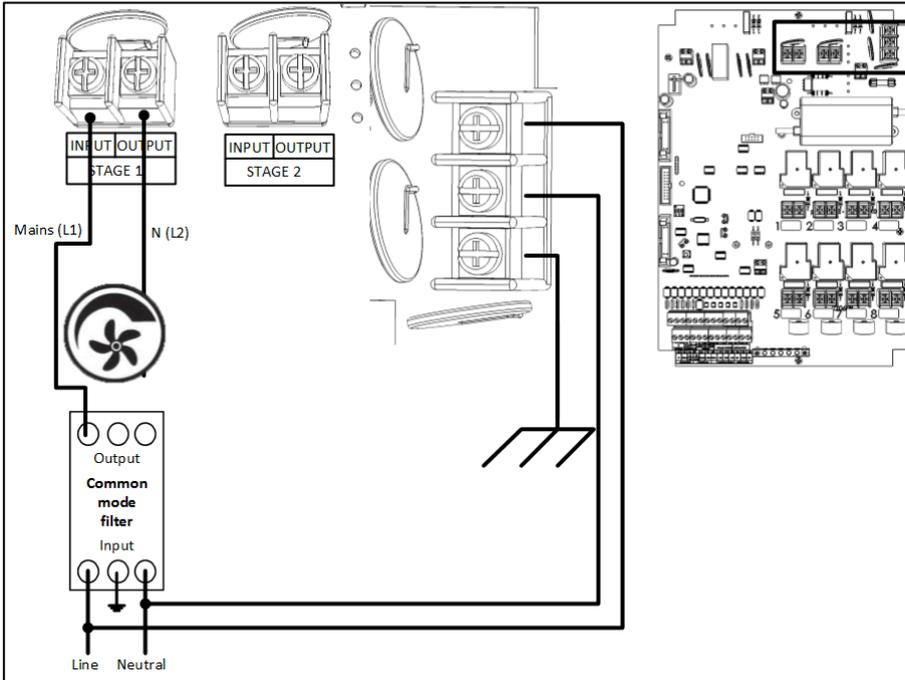

Figure 26: Wiring Diagram of Main Voltage Section Showing Filtering
- Figure 26: Wiring Diagram of Main Voltage Section Showing Filtering